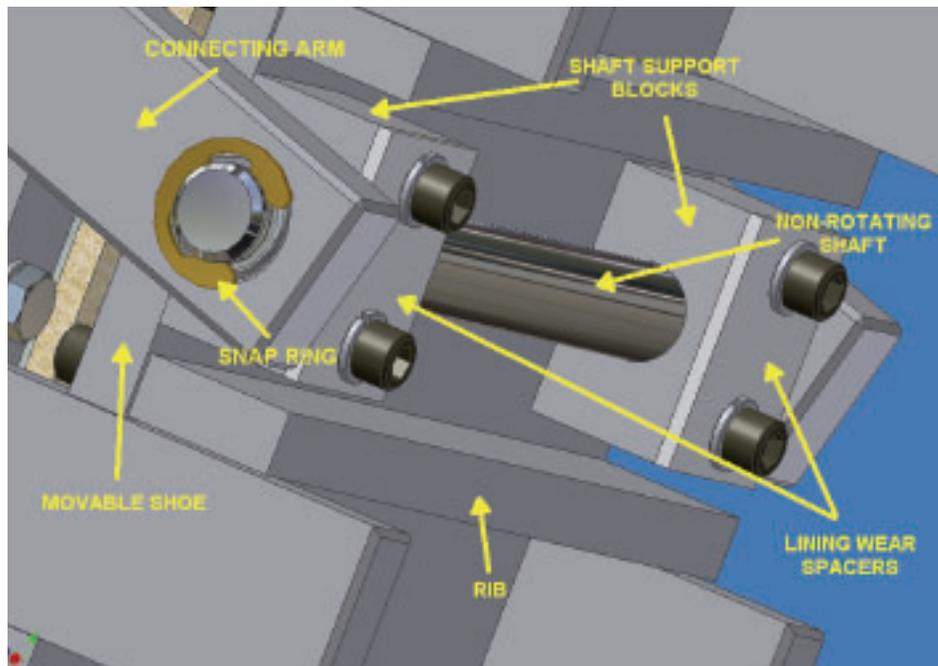

Figure 7
Remove the four snap rings and the two connecting arms shown in Figure 7.
- ◆ For Model 626 – To be effective, the groove depth needs to be about 1/16-inch deep. Sometimes you can make several trips with the car while setting the Rope Gripper and get a groove depth of about 1/16 inch, though the rotating shaft has still not made the turn and started up the power cam. If this happens, once you have sufficient groove depth, remove the jumpers from RG5 and RG6 and then remove the shim (lining-wear spacers) from between the shaft support block and movable shoe (Figure 7). NOTE: Anytime it is necessary to work on a Rope Gripper in the open position, a mechanic must first reinstall the security set screws. Having removed this shim, the rotating shaft should have moved approximately 1/2 inch up the power cam.